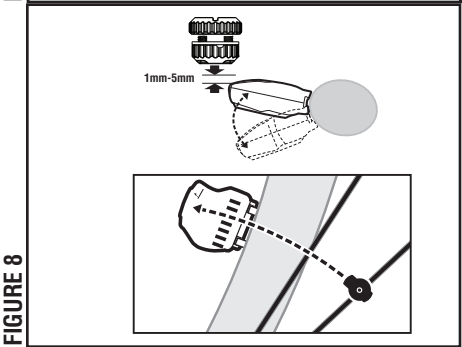

FIGURE 8
STEP 4: Attach the wheel magnet loosely to one of the spokes on the same side of the wheel as the transmitter. Adjust the position of the magnet and transmitter so that the magnet passes the alignment mark on the transmitter with a clearance of 1mm to 5 mm (1mm is about the thickness of a penny). See Figure 8. If the magnet and transmitter are not aligned or not close enough together, the computer will not pick up a signal from the transmitter or the reading will be inconsistent and erratic. Most problems that occur when installing a new computer are related to magnet and transmitter alignment and spacing.